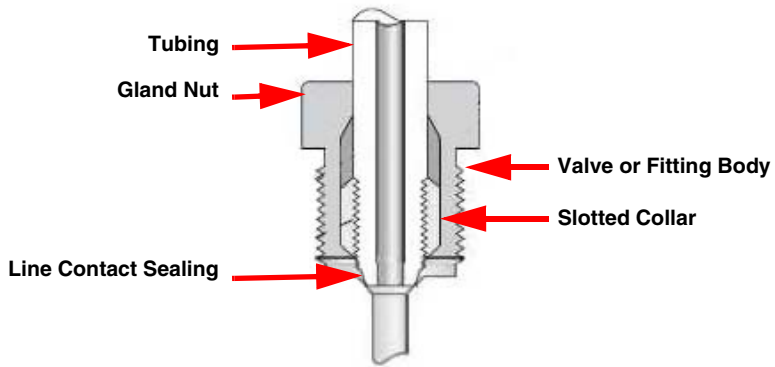

Figure 2-2 SyriXus 65x Fitting
Refer to Figure 2-2 for components and fittings for the SyriXus 65x.
1. Lubricate male threads (outside threads) of gland nut with a metal-based thread lubricant. Slip the gland nut onto threaded end of the tubing, oriented as shown in Figure 2-2. Avoid getting metal-based lubricant on the threads of the tubing.